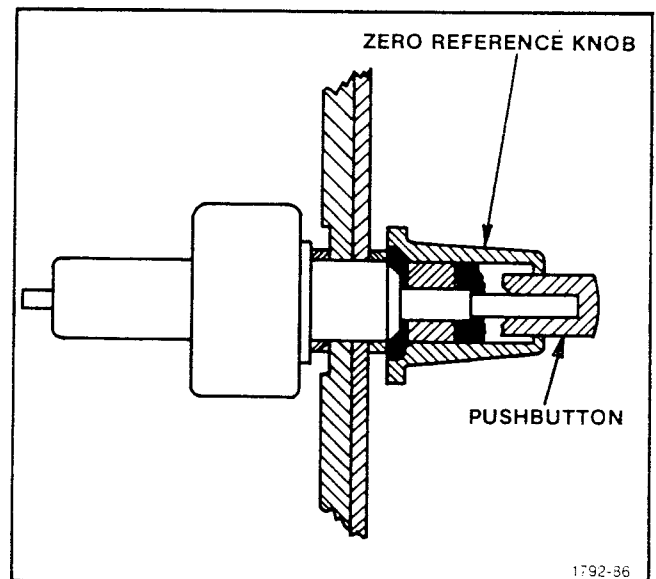

Fig. 5-33. ZERO REFERENCE Knob Installation
- b. Install ZERO REF SET knob and CHECK pushbutton per Figure 5-33.